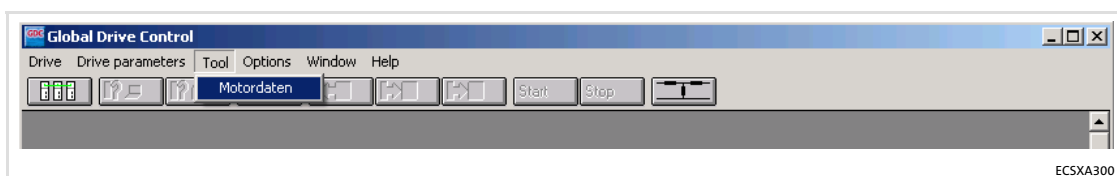

Fig.6-5 GDC view: menu bar and tool bar
1. Go to the GDC menu bar and select the **Tool → Motor data** menu item or click the button with the voltage divider symbol in the tool bar (rightmost in Fig.6-5):